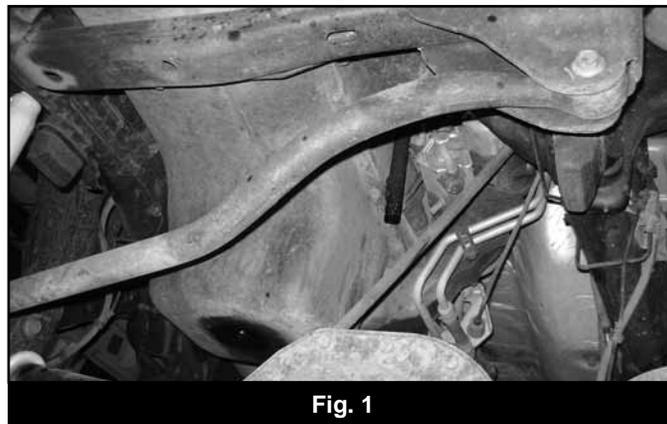

Fig. 1
4. Disconnect the front trackbar from the frame. Retain hardware. Do this when the vehicle is on the ground. It may be necessary to have an assistant shake the steering wheel back and forth to get the bolt to remove more easily. (Fig 1)